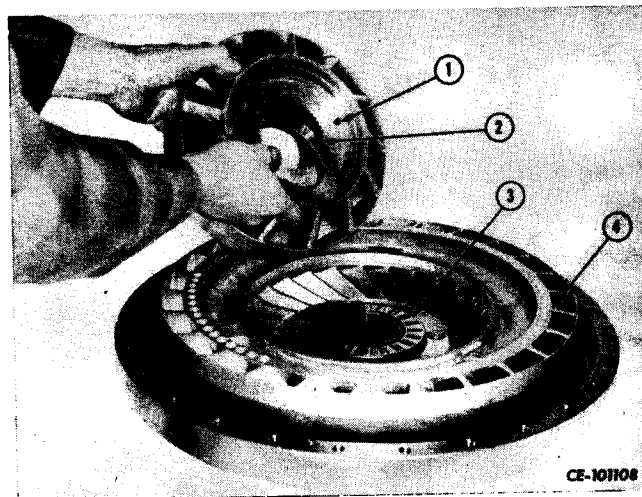

Figure 3-57
Align thrust bearing (3, Fig. 3-57) on turbine (4). Align pin (1) in stator with pin bore (2) in thrust race and install stator and race in turbine.